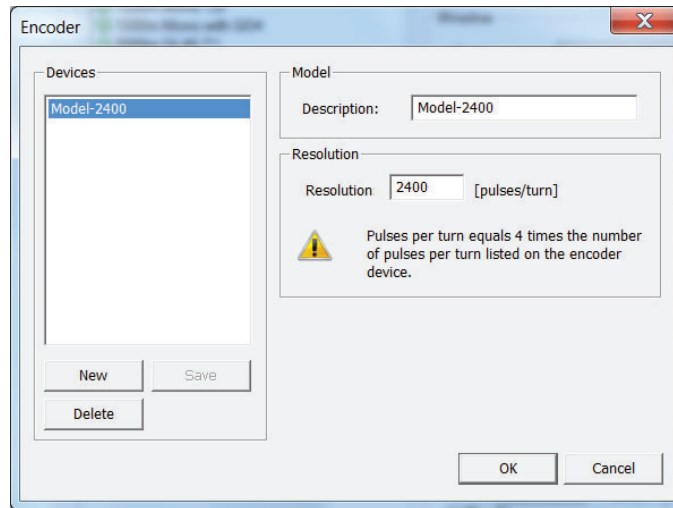

Figure 4-4 Adding a new encoder device for OPAL-SCOUT-BBOX-ALTLogger
- To create a new depth encoder configuration click on the square symbol . In the encoder page click on “New” to add a new device (Figures 4-4 & 4-5).